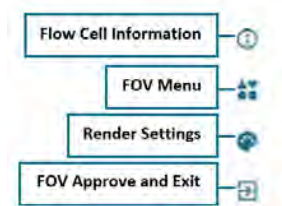

Figure 37: FOV Menu
1. To review FOVs, select **FOV menu** (see Figure 37).
2. After all FOVs have been placed and reviewed, select the **Approve and Exit** icon from the menu (see Figure 37).